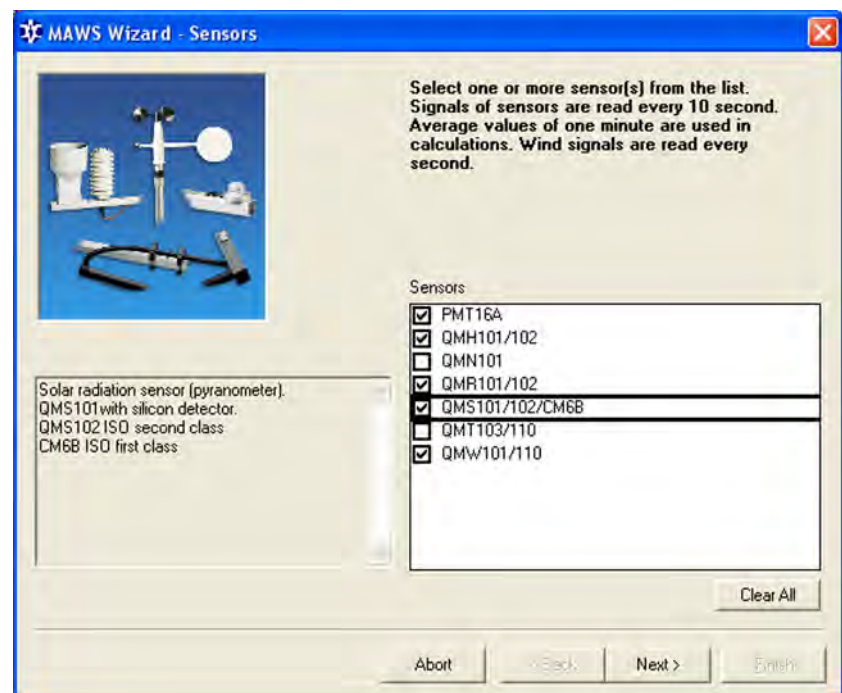

Figure 14 **Selecting Sensors**
5. In the first Wizard view, the **Sensors** view presented in Figure 14 on page 37, you can select the sensors you want for your setup. After selecting the sensors, click **Next** and Wizard will move to the next view.